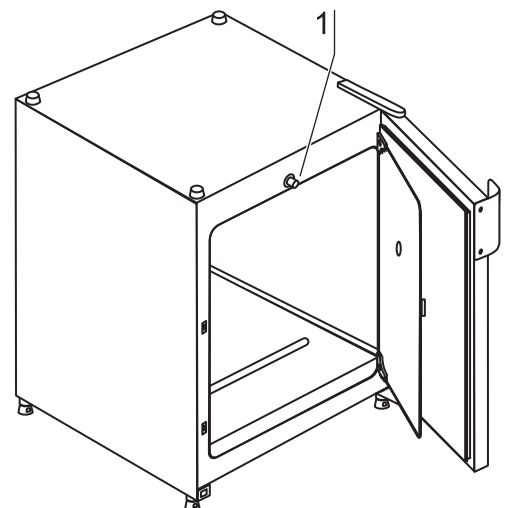

Fig. 7
**Fig. 7:** A door switch [1] is installed in the upper edge of the work space opening. If the door switch is activated by opening the glass door, the gas supply and the heating of the work space are interrupted, and the display shows will flash.